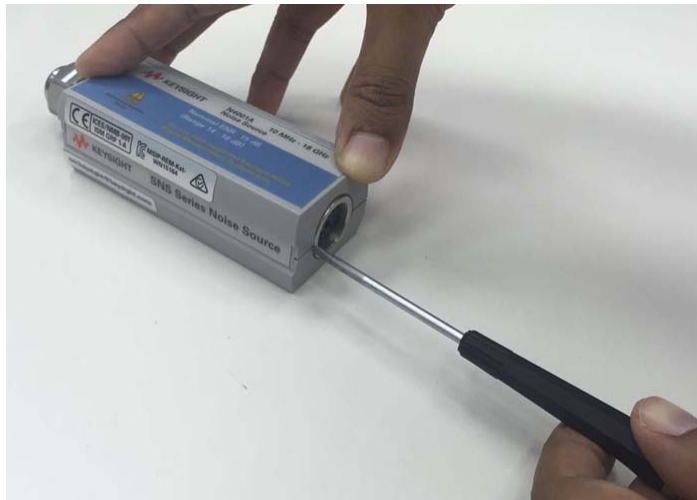

Figure 4-14 Removing the smart noise source plastic shell
- 1 At the rear of the noise source, insert the blade of a screwdriver between the plastic shells (see **Figure 4-14** on page 47). To prevent damage to the shells, use a screwdriver blade as wide as the slot between the two shells.